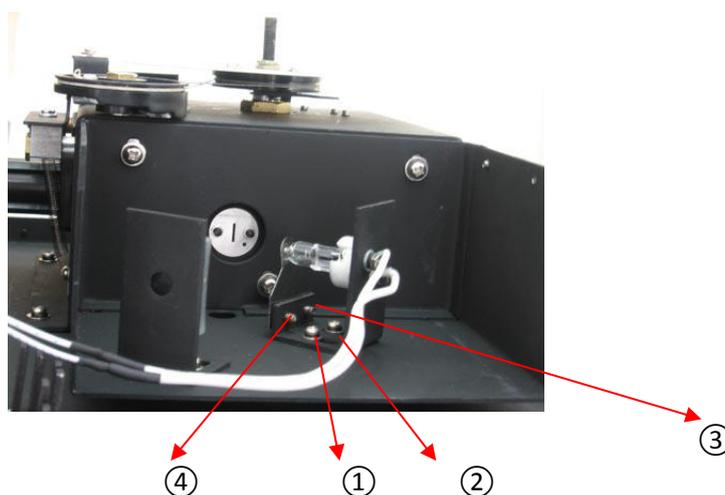

Fig. 2-4
- 8) Unscrew ① & ② in Fig.2-4, then unscrew ③ & ④. Unplug and remove the lamp from ceramic base (the white connector). Insert the new lamp; pushing it in as far as it will go. Then tighten screw ③ & ④.
- 9) Tighten screw ① & ②, Set the wavelength of the instrument at 500nm, Switch on the power, move the lamp up and down and from side to side, until its focus falls exactly on the entrance slit. Observe the reading in T mode without adjusting the △/0Abs/100%T key, Readjust the lamp to make the reading at its maximum.